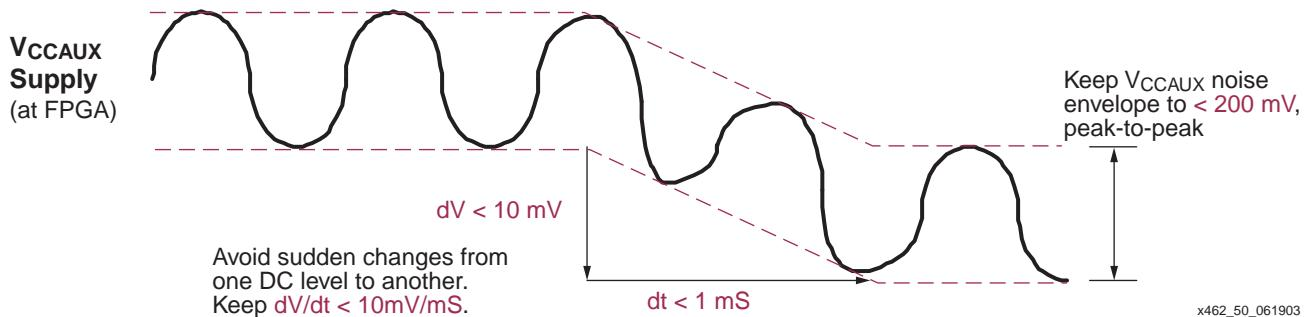

Figure 3-50: Recommended VCCAUX Supply Considerations Avoid Voltage Droop
1. Limit changes on the V_{CCAUX} power supply or ground potentials to less than 10 mV total or 10 mV in any 1 ms interval, as shown in Figure 3-50. This recommendation allows the DCM to properly track out the change.
2. Limit the noise at the power supply to be within 200 mV peak-to-peak, as shown in Figure 3-50.